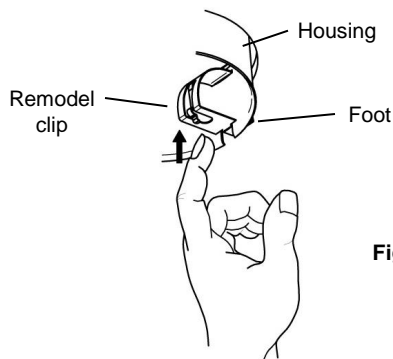

Fig. 5
2. When the “foot” of each remodel clip touches the ceiling, push the remodel clip through the “I” shaped opening. (Fig. 5)